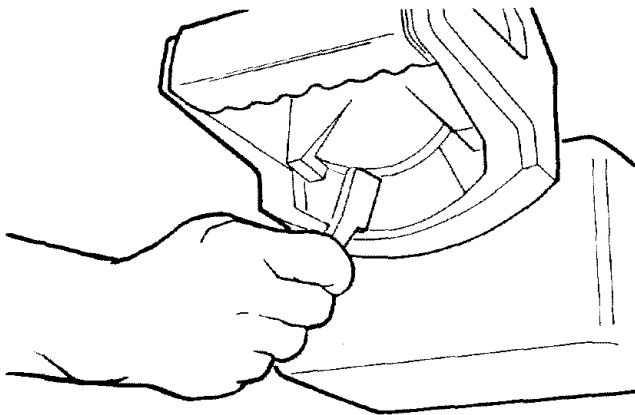

Fig. 150 - Bevel Lock - Locked
2. Position the motor at approximately 30° bevel angle and lock *bevel lock*. (Figure 150)